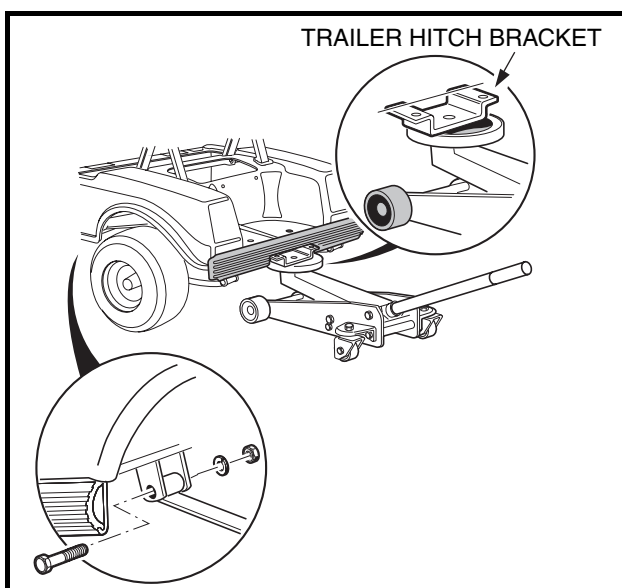

Figure 16-40 Leaf Springs
13. Position the floor jack under the rear frame crossmember and raise the jack high enough to support the vehicle (Figure 16-40, Page 16-17). Make sure the vehicle is stable on the jack, then remove the jack stands.